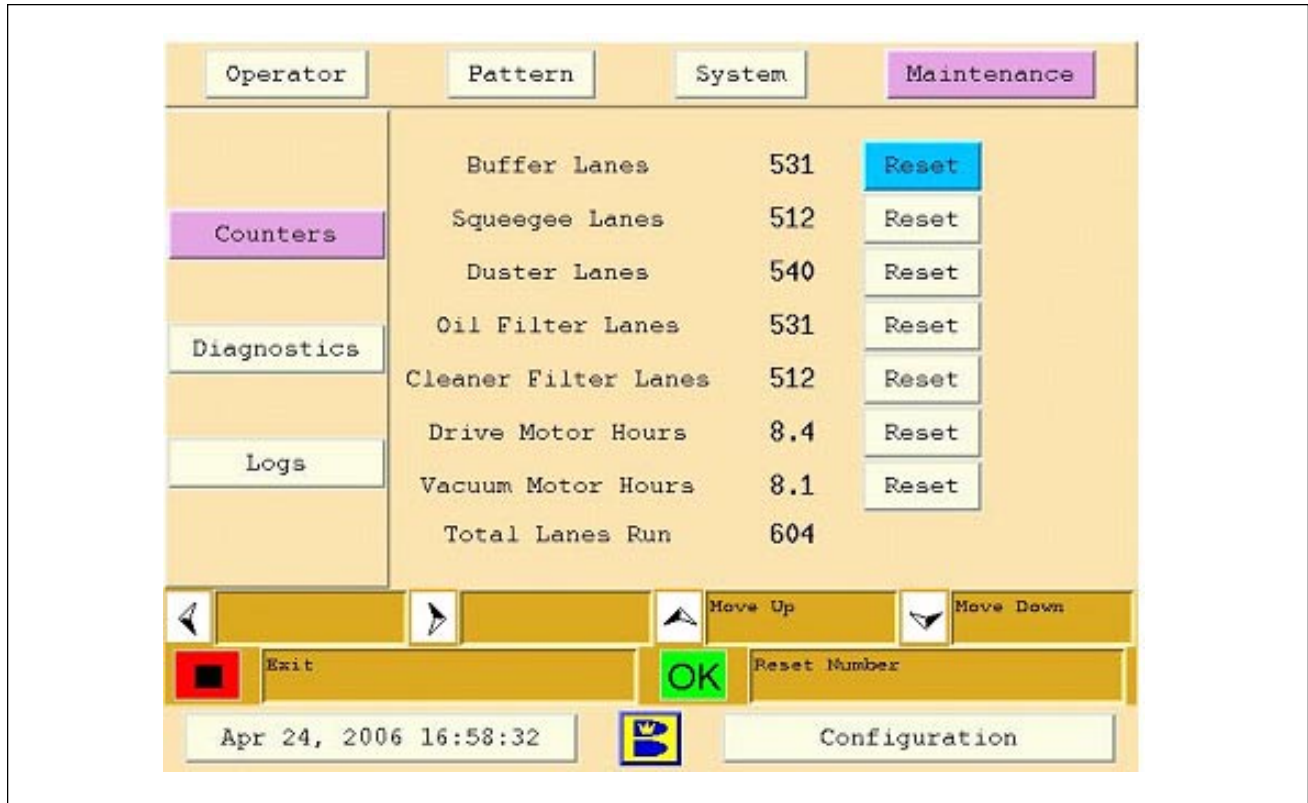

Figure 4-22. Maintenance Counters
1. Go to the Maintenance menu. Refer to Figure 4-22.